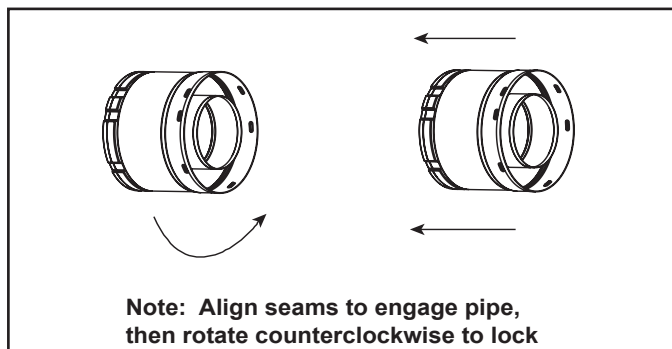

Figure 7.5 Adding Venting Components
- Align the seam of the pipe and seam of collar to allow engagement. Rotate the vent component to lock into place. Use this procedure for all vent components. See Figure 7.5.